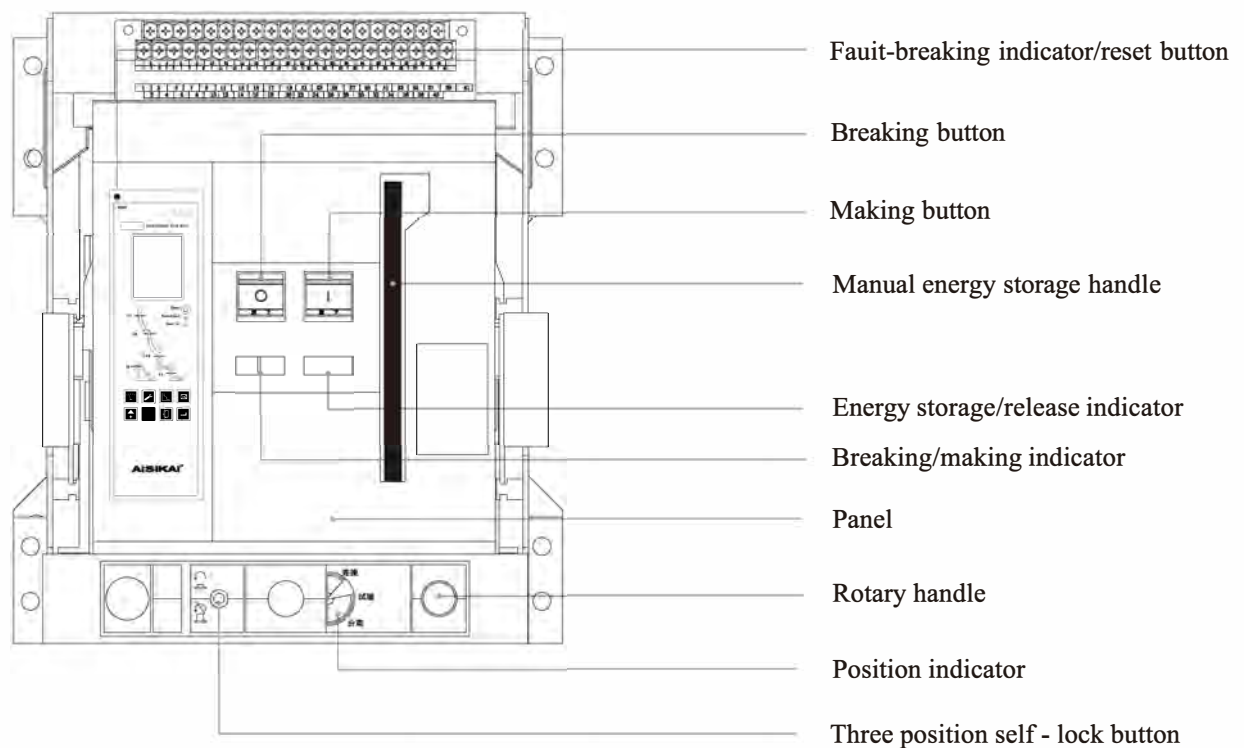

Figure 1
5.2 Front view of circuit breaker in Figure 1